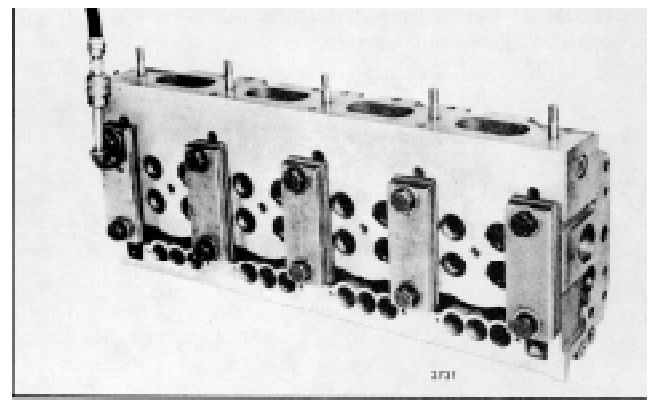

Fig. 9 - Cylinder Head Prepared for Pressure Test
- a. Seal off the water holes in the head with steel plates and suitable rubber gaskets secured in place with bolts and washers as shown in Fig. 9. Drill and tap one of the cover plates for an air hose connection.